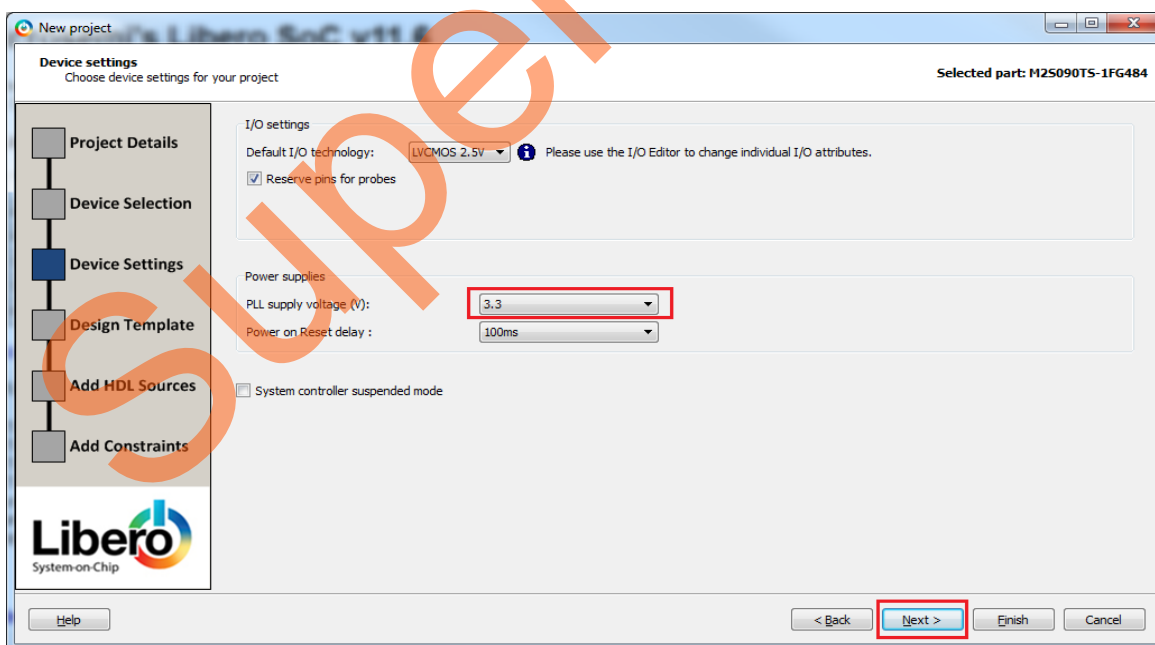

Figure 4 • Device Settings
- Click **Next**. The **Device Settings** window is displayed. Select PLL Supply Voltage (V), as shown in Figure 4.